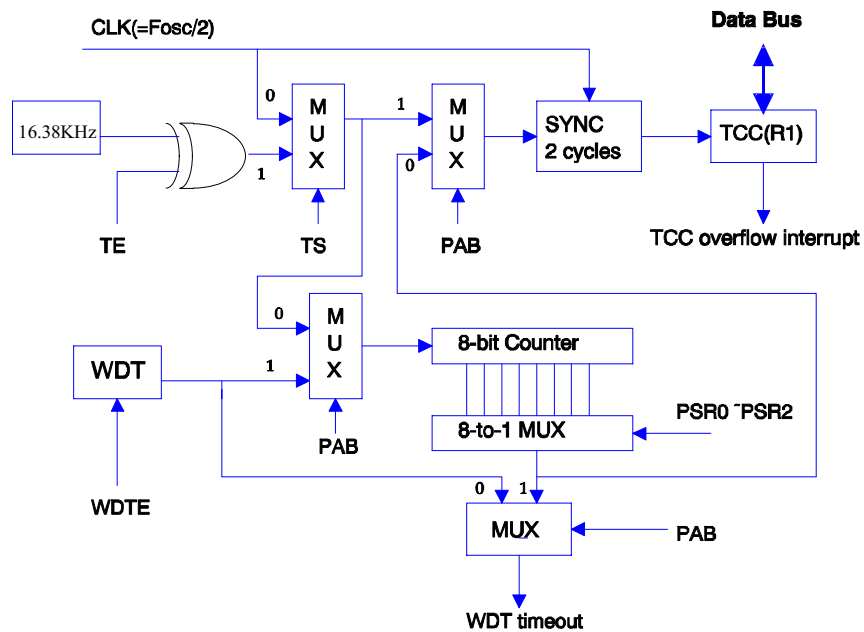

Fig. 5 Block diagram of TCC WDT
- Fig. 5 depicts the circuit diagram of TCC/WDT.